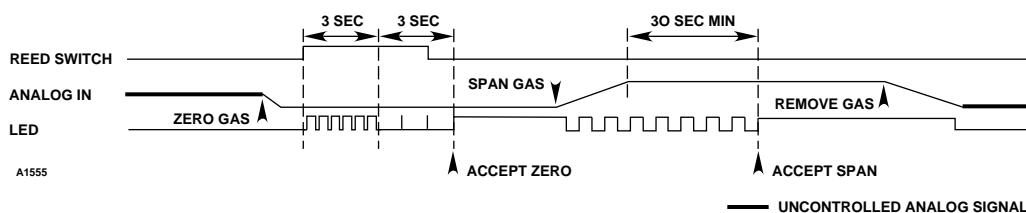

Figure 31—Calibration Algorithm "C"
1. Apply the zero gas. (See Figure 31.)